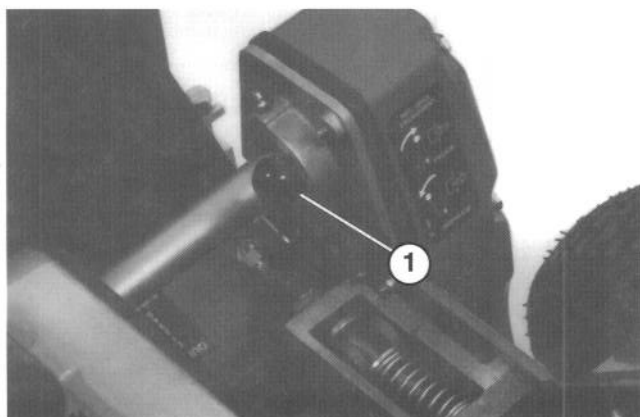

Figure 17
Reel Drive Engagement Lever (Fig. 17) - Located on right front corner of machine. Lever has two positions: ENGAGE and DISENGAGE. Pull up on lever to engage reel or push down on lever to disengage reel.
1. Make sure traction (Fig. 16) and reel drive (Fig. 17) levers are in DISENGAGED position.